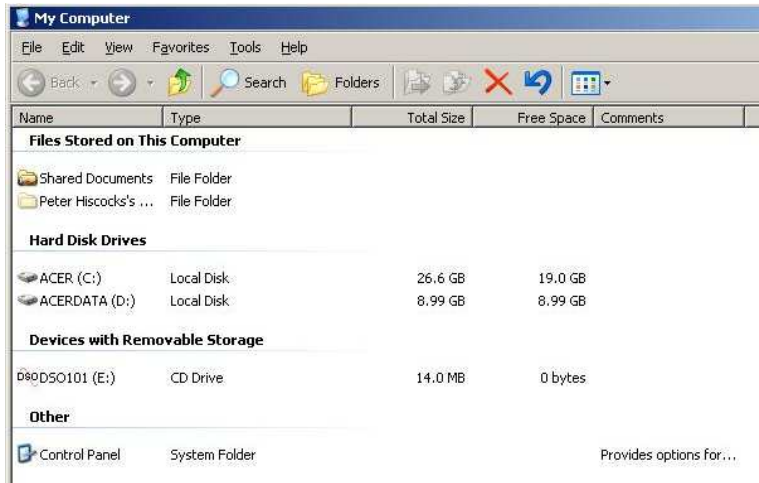

Figure 21: My Computer
1. Double click on My Computer to obtain a screen like figure 21.